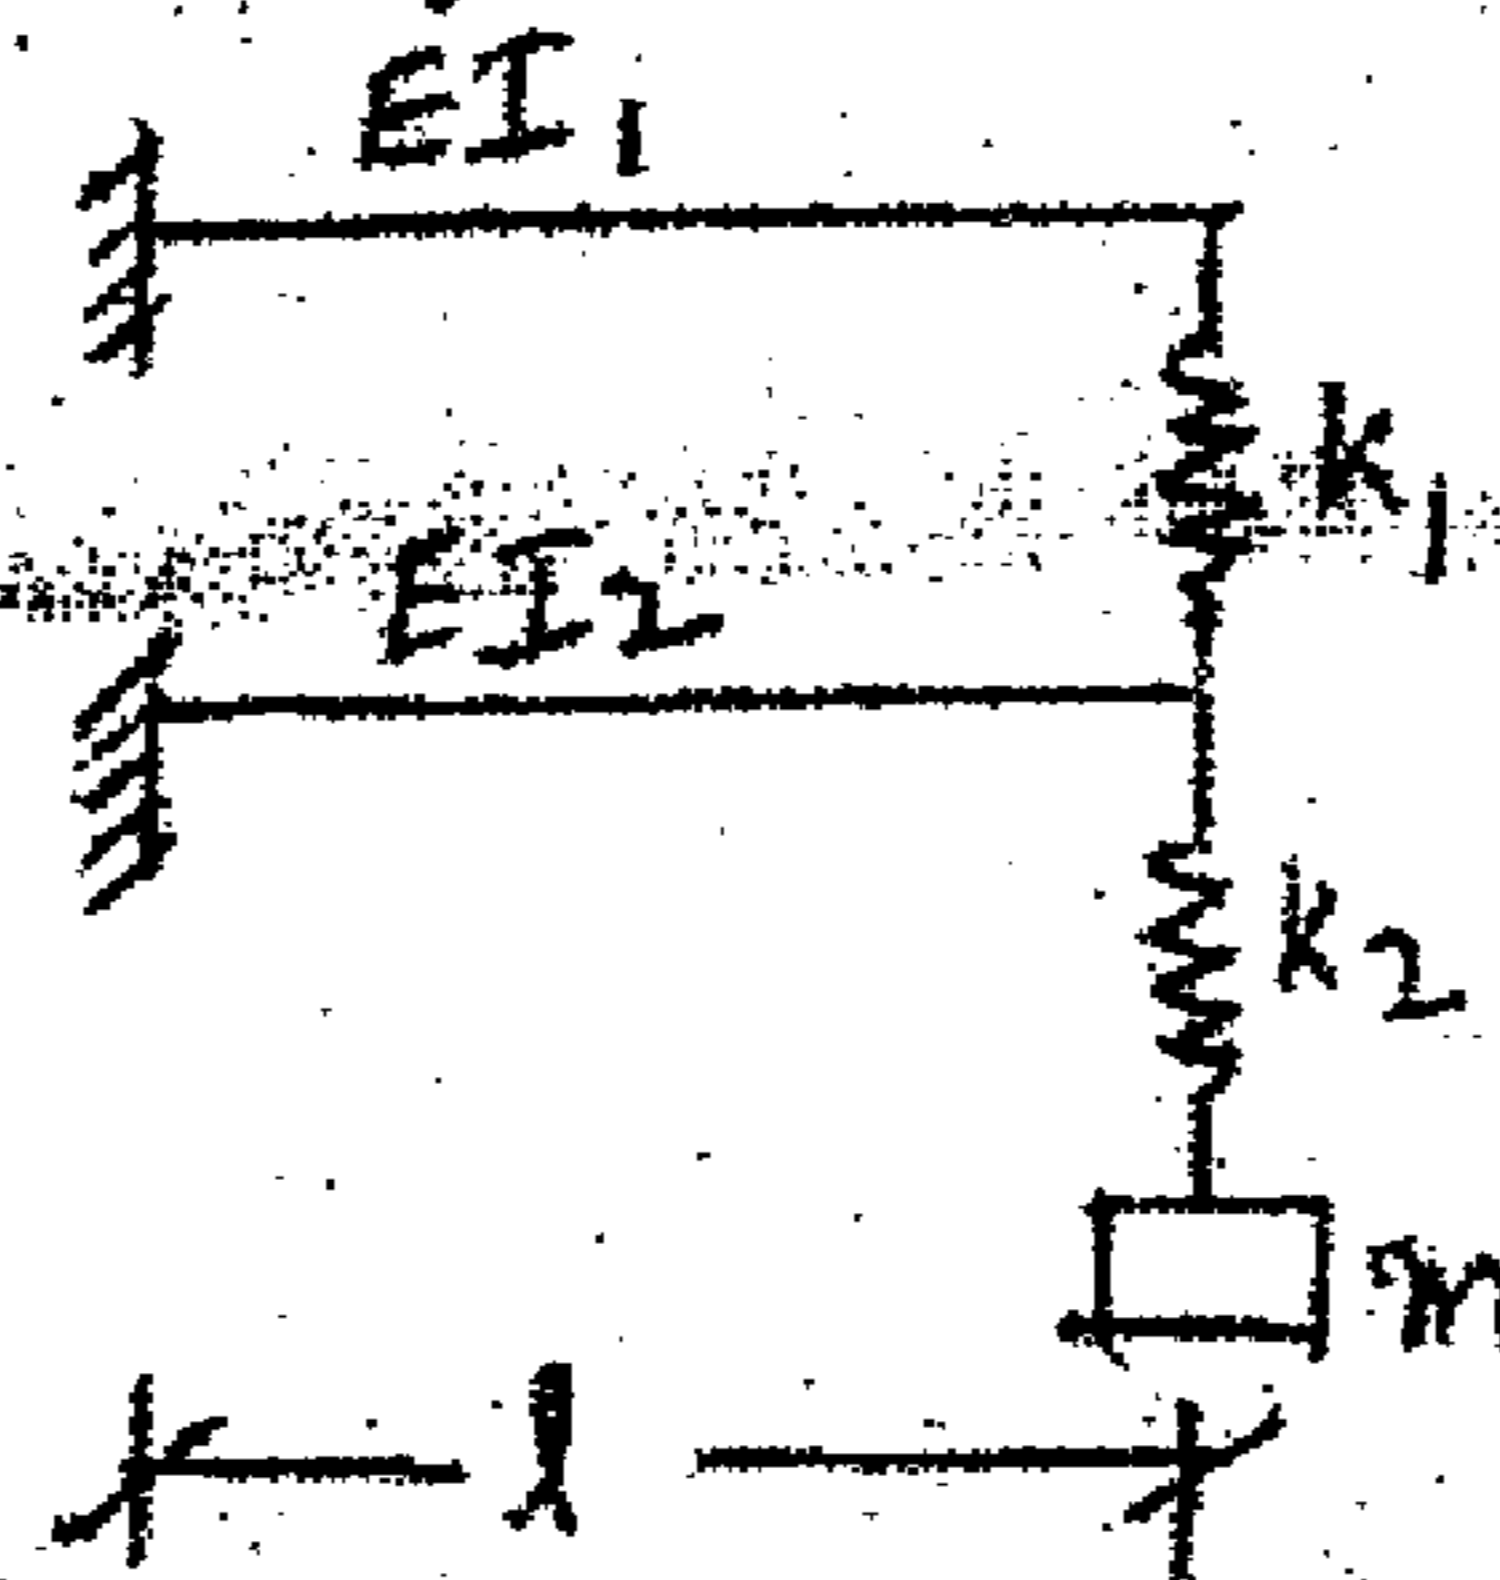

Fig.Q.8(b).
b. Determine the natural frequency of the systems shown in Fig.Q.8(b). (10 Marks)